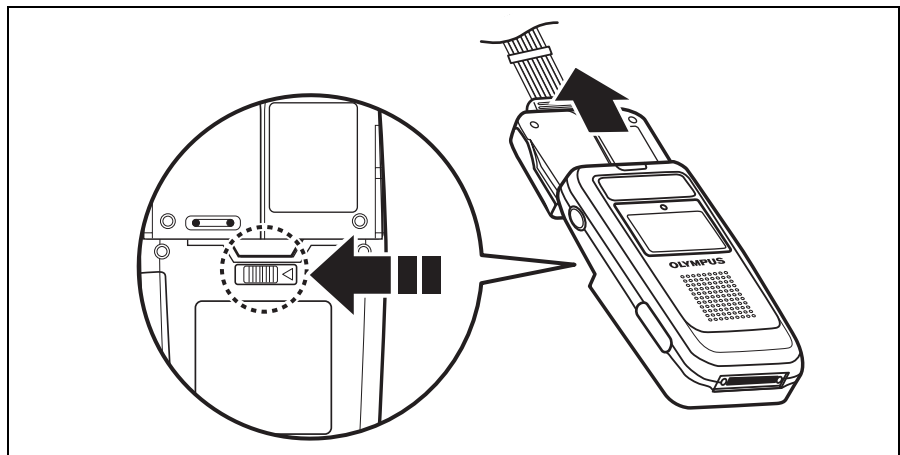

Figure 5.47
3. Hold down the recorder unit's power switch for 2 seconds or more to turn OFF the recorder unit, then disconnect the antenna lead set. Slide the antenna lead set eject button on the backside of the recorder unit, and disconnect the connection unit by sliding it in the direction of the arrow (see Figure 5.47).